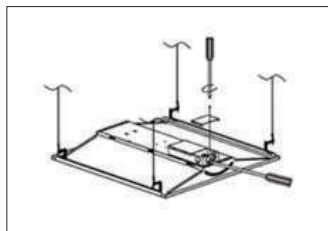

Figure 1
1. Lock the lockparts of the wire rope branching to the LED Troffers. (Figure 1)